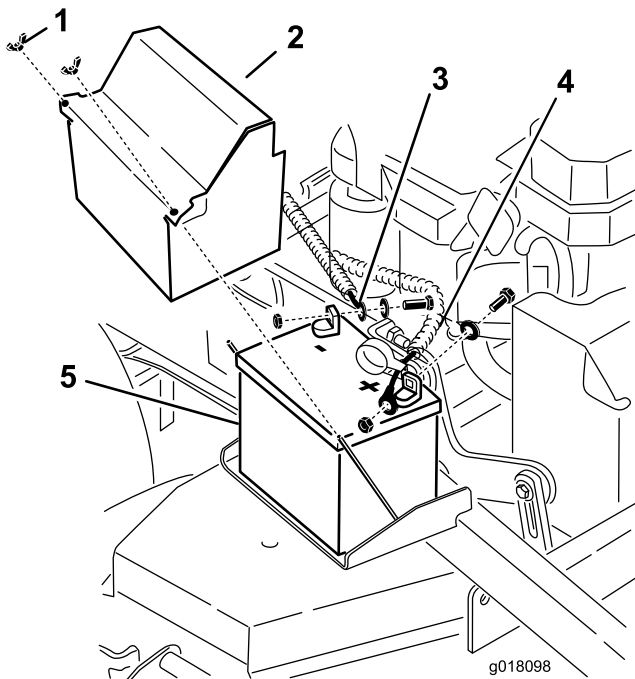

Figure 31
2. Remove the battery (Figure 31).